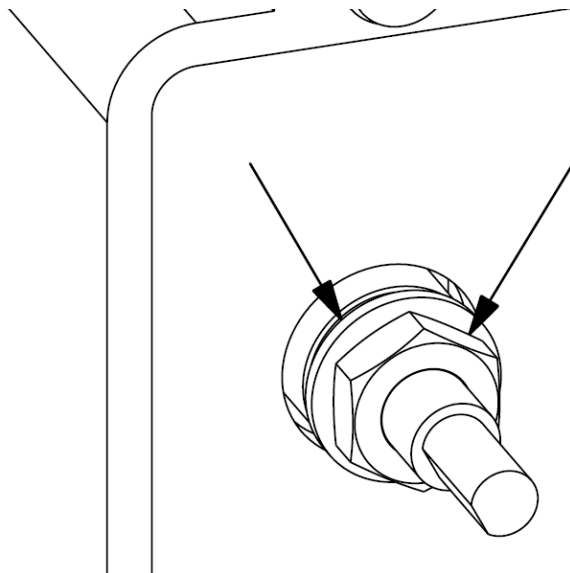

Figure 7-15: Sensor shaft fastener removal
25. Install the washer and nut on the sensor shaft in the counterweight enclosure. Reference **Figure 7-15**.